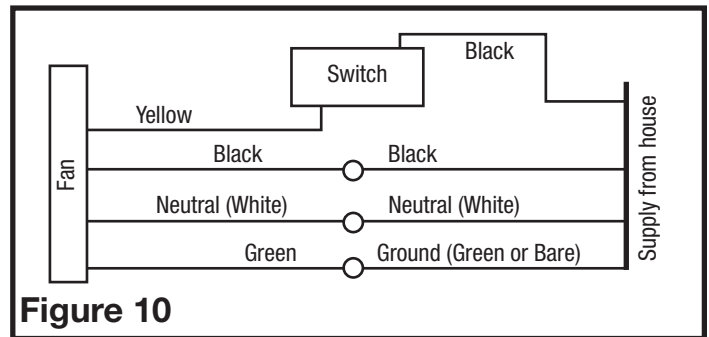

Figure 10
5. For two speed fans wired for continuous ventilation, connect the White wire of the fan to the White (Neutral) wire from the power source. Connect the ground wire from the house to the Green wire from the fan housing. Connect the Black wire of the fan to the Black wire (Hot) from the power source. The fan will operate on low speed continuously and boost to high upon a rise in humidity. Using a properly grounded switch connect the Black wire from the supply to the input side. Connect the Yellow wire from the fan to the other side. Closing the switch will change from normal to high speed. A manual override switch (not included) can be used to provide a manual fan Off function. (Figure 10).
6. For two speed fans wired for continuous ventilation, connect the White wire of the fan to the White (Neutral) wire from the power source. Connect the ground wire from the house to the Green wire from the fan housing. Connect the Black wire of the fan to the Black wire (Hot) from the power source. The fan will operate on low speed continuously and boost to high upon a rise in humidity or motion is detected. Using a properly grounded switch connect the Black wire from the supply to the input side. Connect the Yellow wire from the fan to the other side. Closing the switch will change from normal to high speed. A manual override switch (not included) can be used to provide a manual fan Off function. (Figure 10).